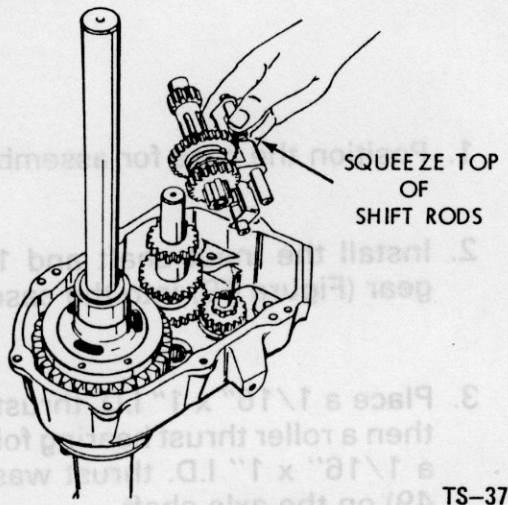
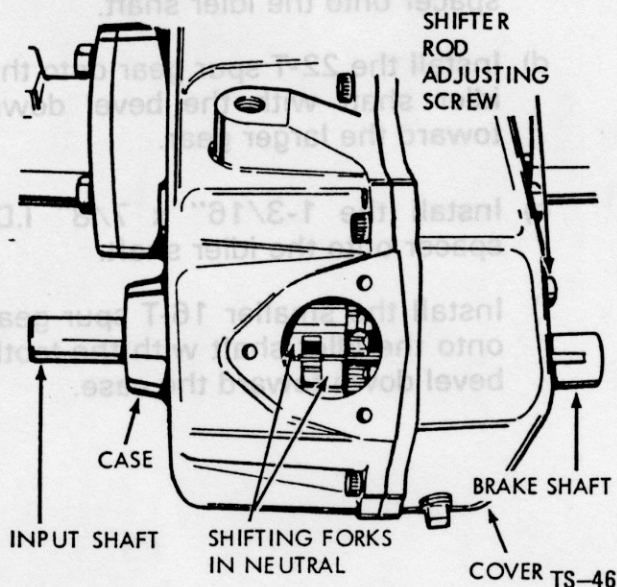

Figure 51 - Install Shifter Assembly
Figure 53 - Transaxle Case
6. Install the shifter assembly (Figure 51) as a unit. The neutral slots (Figure 53) of the shifter forks should align with the case opening.